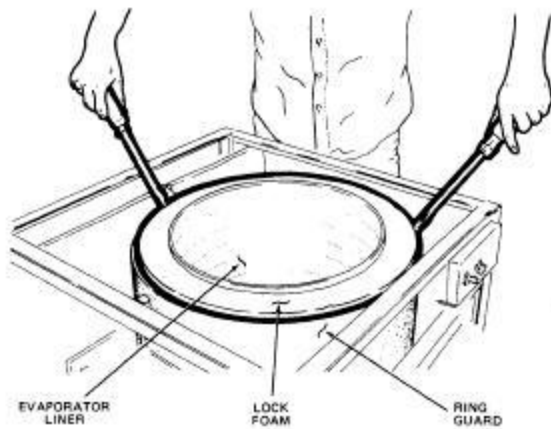

Figure 11-15. Pry Evaporator from Guard Ring
- a. Using two large screw drivers, pry the evaporator liner and lock foam insulating material up from the guard ring until it breaks loose, Figure 11-15.